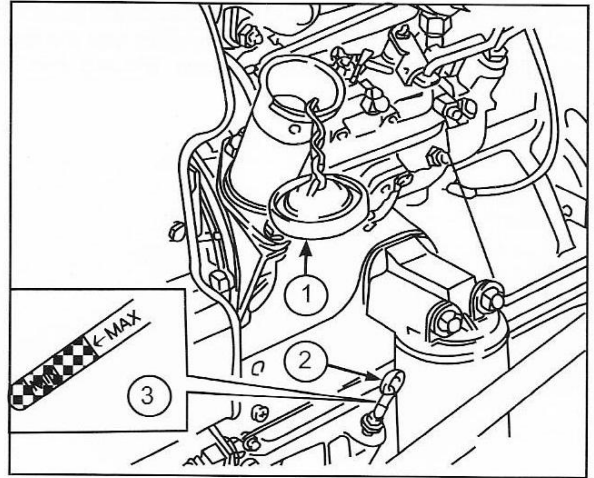

Fig. 69
**Check the engine oil level - flexible maintenance** the oil level (Fig. 69) before starting work each day. If the engine has been running, stop the engine and allow the oil to drain back into the sump. Check the oil level with the dipstick (2).